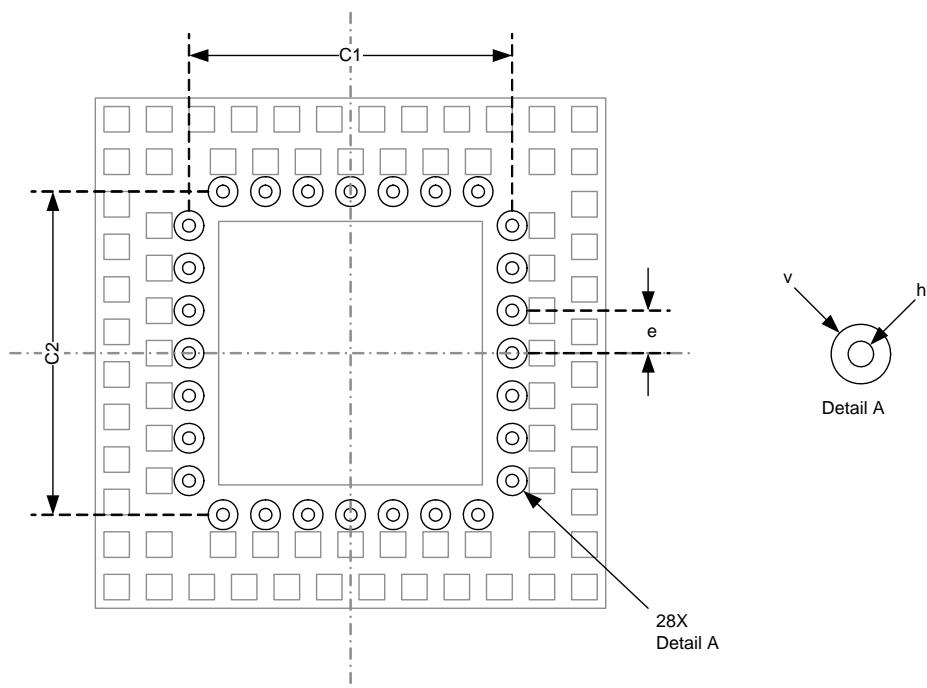

Figure 3.6. Recomended Inner Via Placement
1. Inner via placement per Figure 3.6.